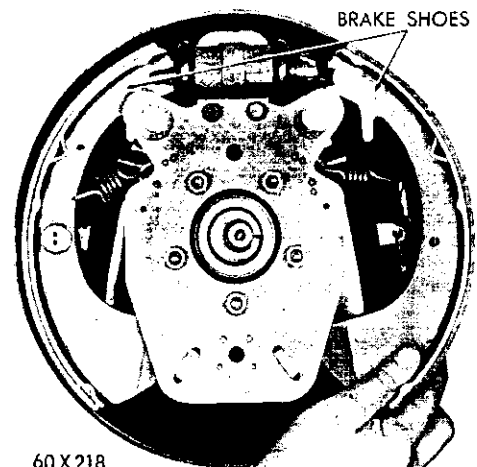

Fig. 10—Removing the Rear Brake Shoe
(5) Slide the shoes from between the support plates (Fig. 10).
(1) Slide the brake shoes into position between the support plates. Be sure the ends of the cylinder push rods engage the toe end of the shoes properly (Fig. 10).
(2) Insert the brake shoe return springs in the link of the support plate (Fig. 10).